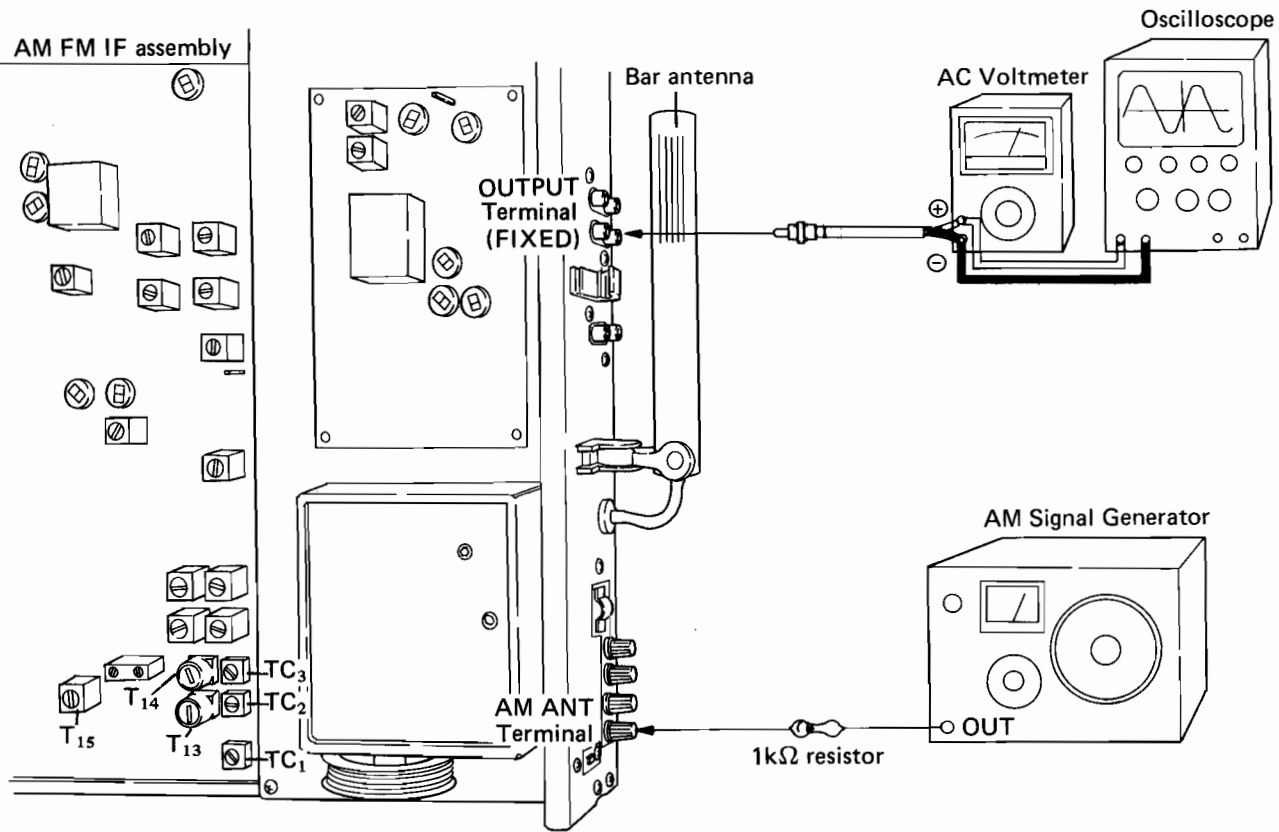

Fig. 20
2. Connect the test instruments as shown in Fig. 20, and adjust the AM Signal Generator (AM SG) to 400Hz modulation frequency, 30% modulation, and 30dB output.